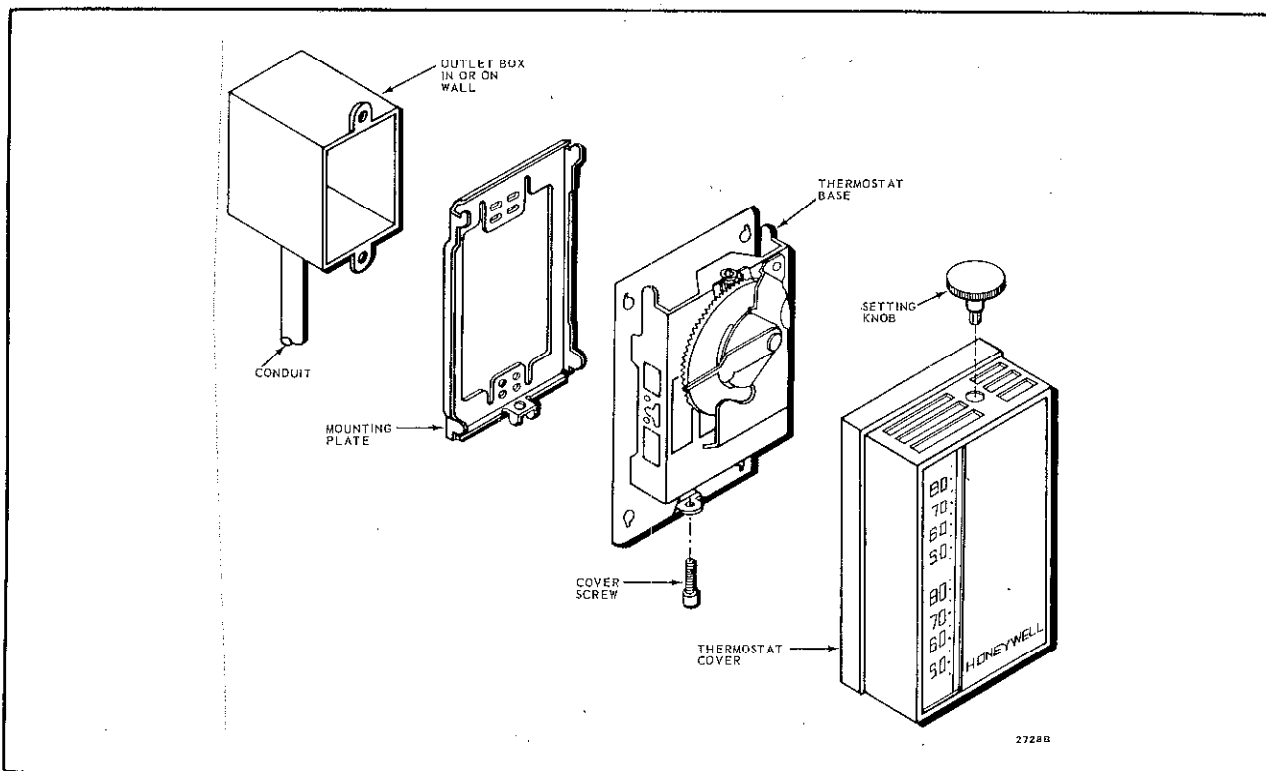

Fig. 1—Mounting thermostat to outlet box.
4. Level the mounting plate and tighten the mounting screws. (See Fig. 1.)
7. Hang thermostat on mounting plate tabs. (See Fig. 1.)